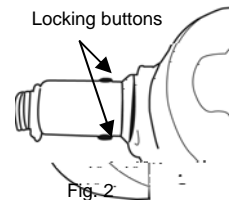

Fig. 2
2. To remove the flexible hose, depress on the 2 locking buttons and pull the flexible hose out. (Fig 2)